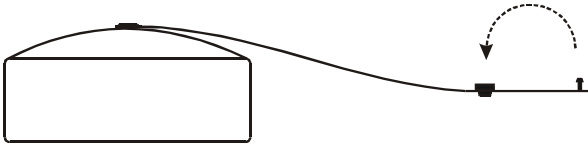

FIGURE 2
**Step 2.** Snap end of retaining strap for plastic cap into place as shown in Figure 2.